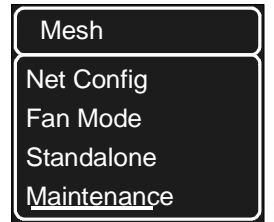

Figure 8: Selecting Maintenance
1. While in the Configuration Mode, press the Up/Down buttons to select the **Maintenance** option (Figure 8).